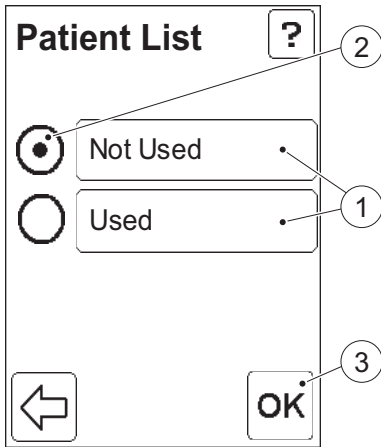

FIGURE 3-52
- Patient List (See FIGURE 3-52)